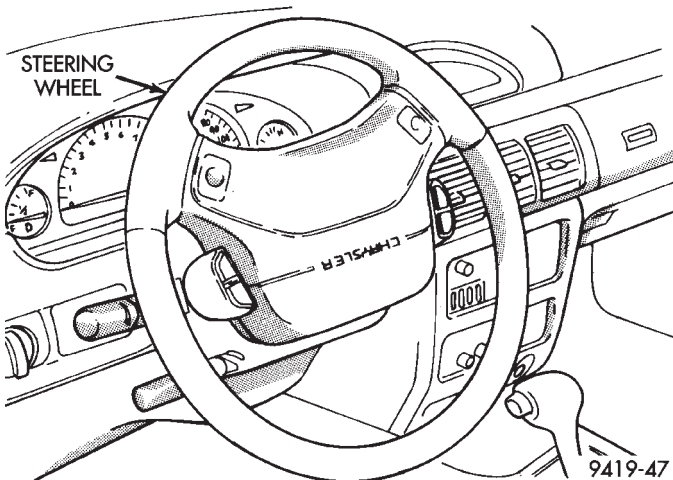

Fig. 2 Steering Wheel In Locked Position
(1) Lock the steering column by turning the steering wheel 1/2 turn (180°) clockwise from the straight ahead position of the front wheels (Fig. 2). Turn the key to the lock position and remove the key from the lock cylinder. This will ensure that no damage occurs to clock spring when steering column is removed from vehicle.